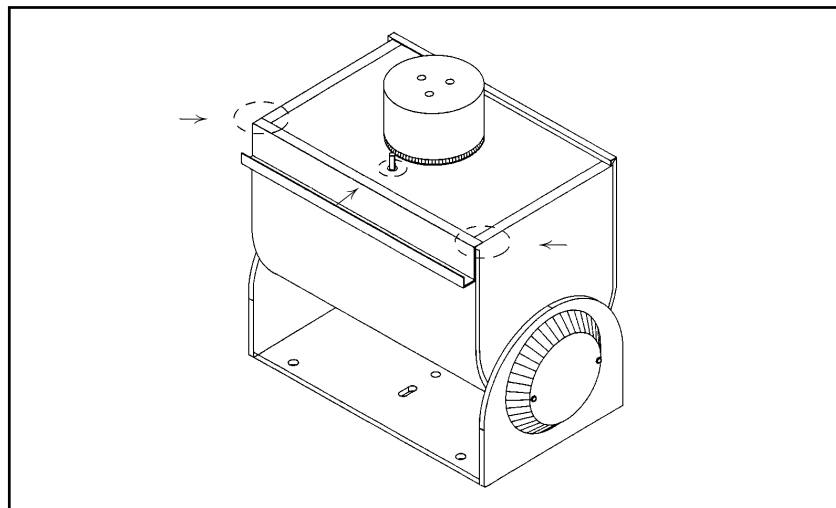

Figure 1 . Sealant Locations
NOTE: When mounting the pan/tilt outdoors in the inverted position (base up), RTV silicone sealant, such as Dow Corning Type 732 or equivalent, should be applied to the areas indicated in Figure 1.
4. Reinstall the cover. If the pan/tilt is installed outdoors in an inverted position, apply RTV silicone sealant as shown in Figure 1.